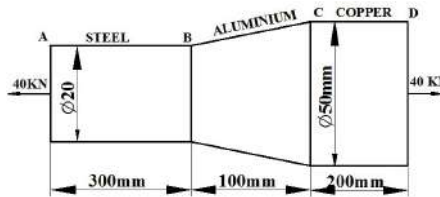

Figure 4
21. A stepped bar subjected to an external loading as shown in **Figure 4**, Calculate the change in the length of the bar. Take $E=200\text{Gpa}$ for Steel $E=70\text{ GPa}$ for Aluminum and $E=100\text{ GPa}$ for Copper (Dec 07/Jan 08)